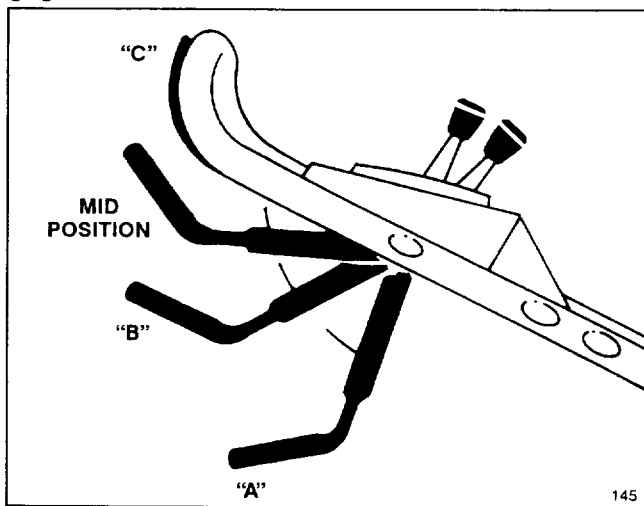

Figure 8
6. BLADE AND TRACTION OPERATION (Fig. 8)—Move control bar down to "A" and raise to "B" to engage blade. Squeeze control bar against handle "C" to drive. To disengage traction drive but keep blade engaged, gradually release control bar to mid position. To self-propel with blade disengaged, simply squeeze control bar against handle, eliminating downward movement necessary for blade engagement.